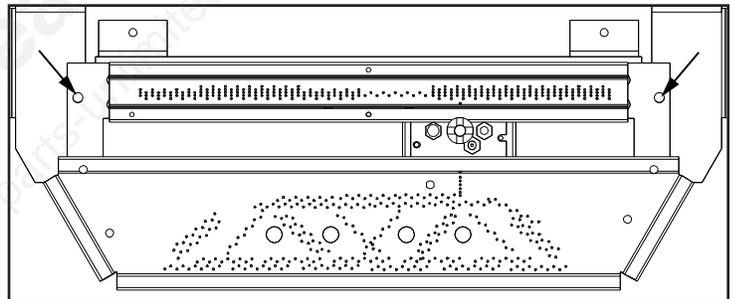

Figure 6: Screws holding Burner.
2. Remove the two (2) T-20 screws that hold the burner in place; one (1) at each of the rear burner (see Figure 6).
8. Reinstall the burner, brick panels, log set, embers, and glass door. Also refer to SECONDARY INSTALLATION - INSTALLING LOG SET AND EMBERS. When re-installing the burner, ensure that the burner to pilot hood relationship is similar to what is shown in Figure 6. On some units you will need to pay special attention when installing the burner that the venturi adjustment rod is properly installed into the venturi adjustment piece welded to the burner venturi tube